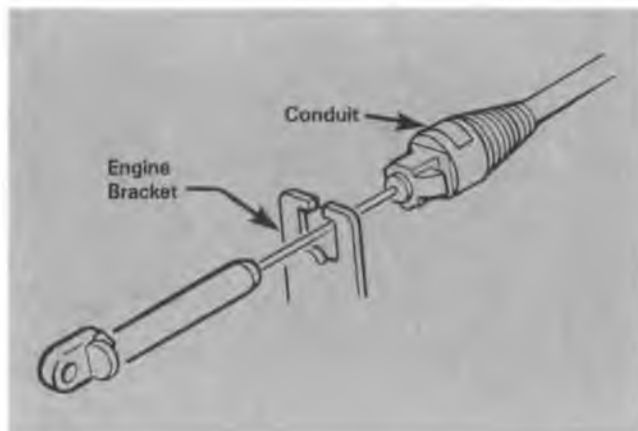

Figure 7-4 Cable Installation
Step 4 Install cable conduit in engine bracket (Figure 7-4).
- Step 3 For gasoline (TBI) engines, turn ignition off. Move cable conduit (see Cable Conduit, Figure 7-4) until throttle plate begins to open. Then move conduit in opposite direction enough to return throttle plate to closed position.